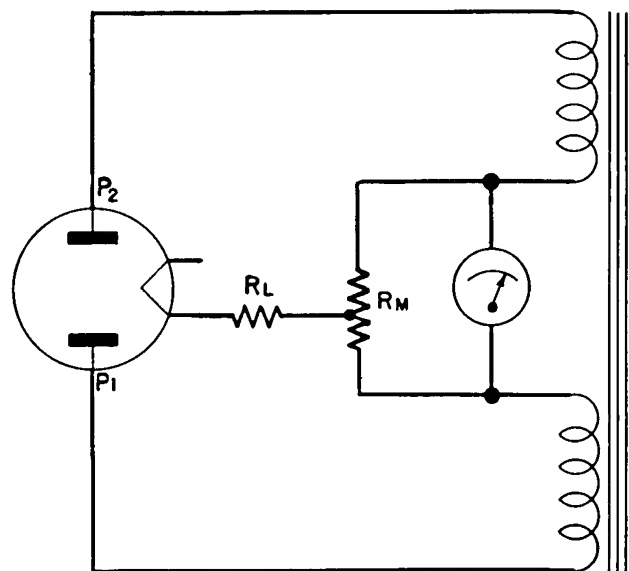

Figure 2-1. Rectifier Diagram
(See Figures 2-1 and 2-2)
a. Examine first the simple full-wave rectifier circuit shown in Figure 2-1. The two power transformer secondary windings have their inner ends connected to a direct-current milliammeter. Across the milliammeter is a center-tapped resistor  $R_M$ . The load is shown as a resistance  $R_L$ , connected between the center tap and the rectifier filament as in any full-wave rectifier circuit.